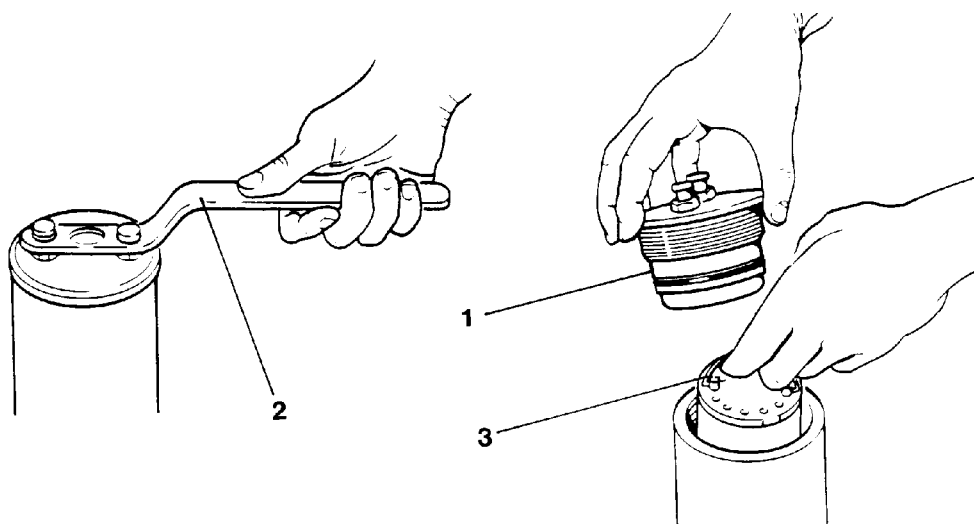

Fig. 32 Cartridge change
- On filters with **SECURUS** monitoring system unlock BNC plug of the coaxial cable by applying light pressure and turning in a counter-clockwise direction. Pull out BNC plug (see Fig. 32).
- Unscrew the filter head (1) with the special spanner (2) supplied with the unit. This tool has a recess to accomodate the BNC plug.